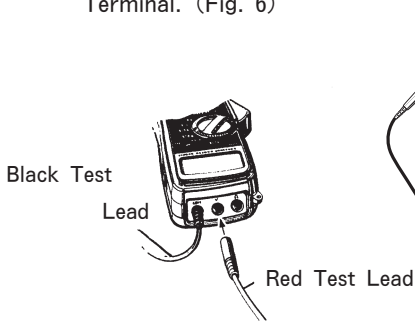

Fig.6
- (3) Insert the red plug of the test leads into the VOLT Terminal and the black plug into the COMMON Terminal. (Fig. 6)